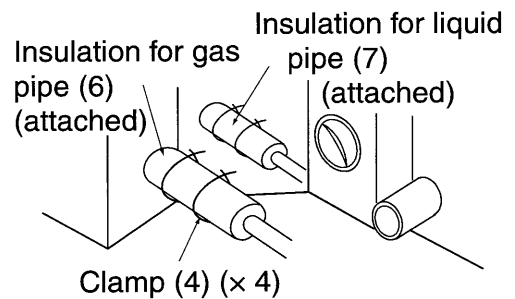

Fig. 23
- Make absolutely sure to execute heat insulation works on the pipe-connecting section after checking gas leakage by thoroughly studying the following figure and using the attached heat insulating materials for couplings (6) and (7). (Fasten both ends with the clamps (4).) **(Refer to Fig. 23)**